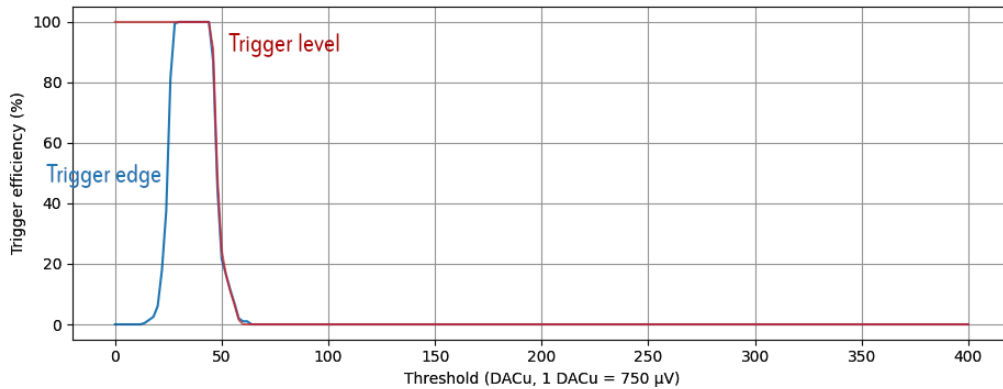

Figure 19 – S-curves on trigger level versus trigger edge on the pedestal.
Finally, checkbox ③ allows to perform the measurement on trigger level or trigger edge. The difference is only visible when below the pedestal. If the measurement is done on trigger level the trigger efficiency will be 100 % when the threshold is below the pedestal. If done on trigger level the trigger efficiency will drop to 0 when the threshold is below pedestal. The difference is shown on Figure 19.